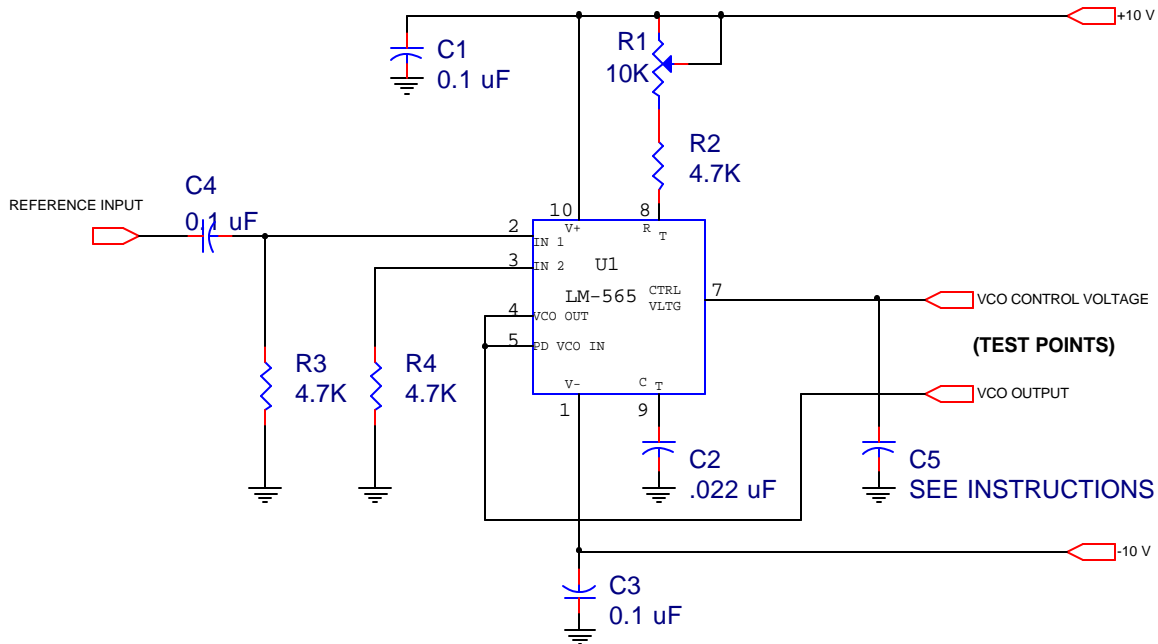

Figure 3: PLL Evaluation Circuit using the LM-565
In Figure 3 the VCO timing is set by R1, R2, and C2. The low-pass filter time-constant (which we will vary) is formed by the internal 3.6K resistor on pin 7 and C5. The reference input goes to pin 2, one of the phase detector inputs. The other phase detector input on pin 5 is directly connected to the VCO output on pin 4, closing the loop.
1. Construct the circuit of Figure 3 using a 10 μ F electrolytic for C5. (C5 is the capacitor for the loop low-pass filter.)